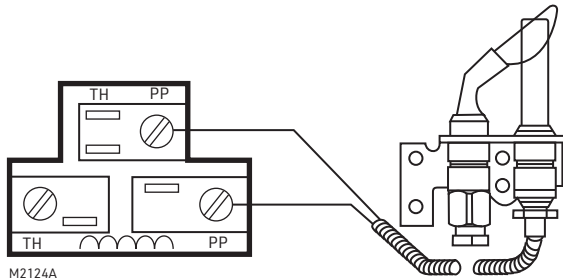

Fig. 6. Typical wiring connections for thermopile.
3. Connect leads to terminals marked PP on the gas control (see Fig. 6).